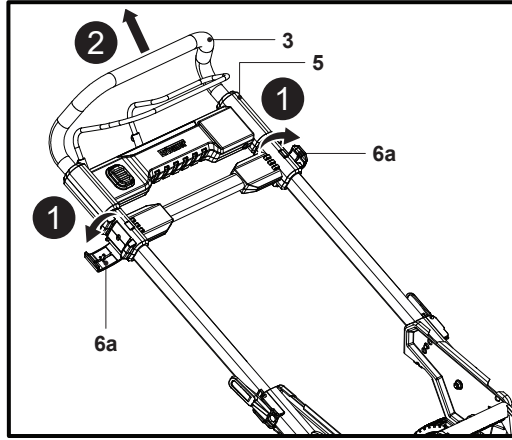

Fig. 3
4. Pull open the two clamp levers (6a), then grasp the grip handle (3) and gradually pull out upper handle bar (5) all the way until an audible click is heard (Fig. 3, steps 1, 2).